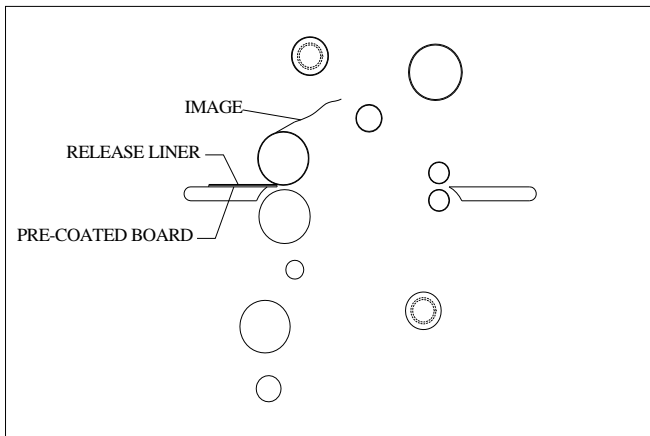

FIGURE 33
3. Do not stop once you have started the mounting process through the machine. (Fig. 33)
Note: This application can also be performed from the front operating position. Reference Fig. 33 for Illustration.